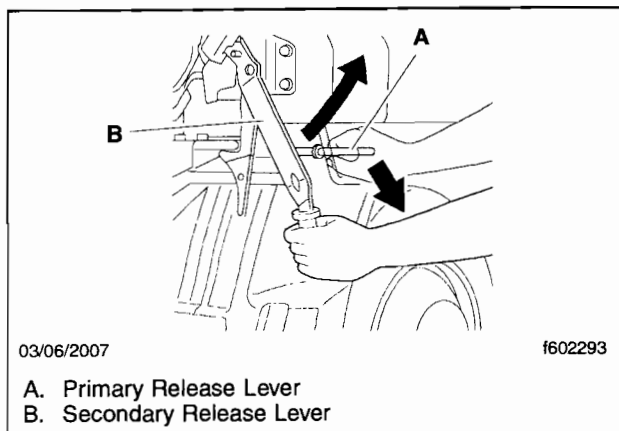

Fig. 2, Releasing the Cab Locks
- 2.1 Pull out the primary release lever (A). While holding lever A, lift the secondary release lever (B). See **Fig. 2**.